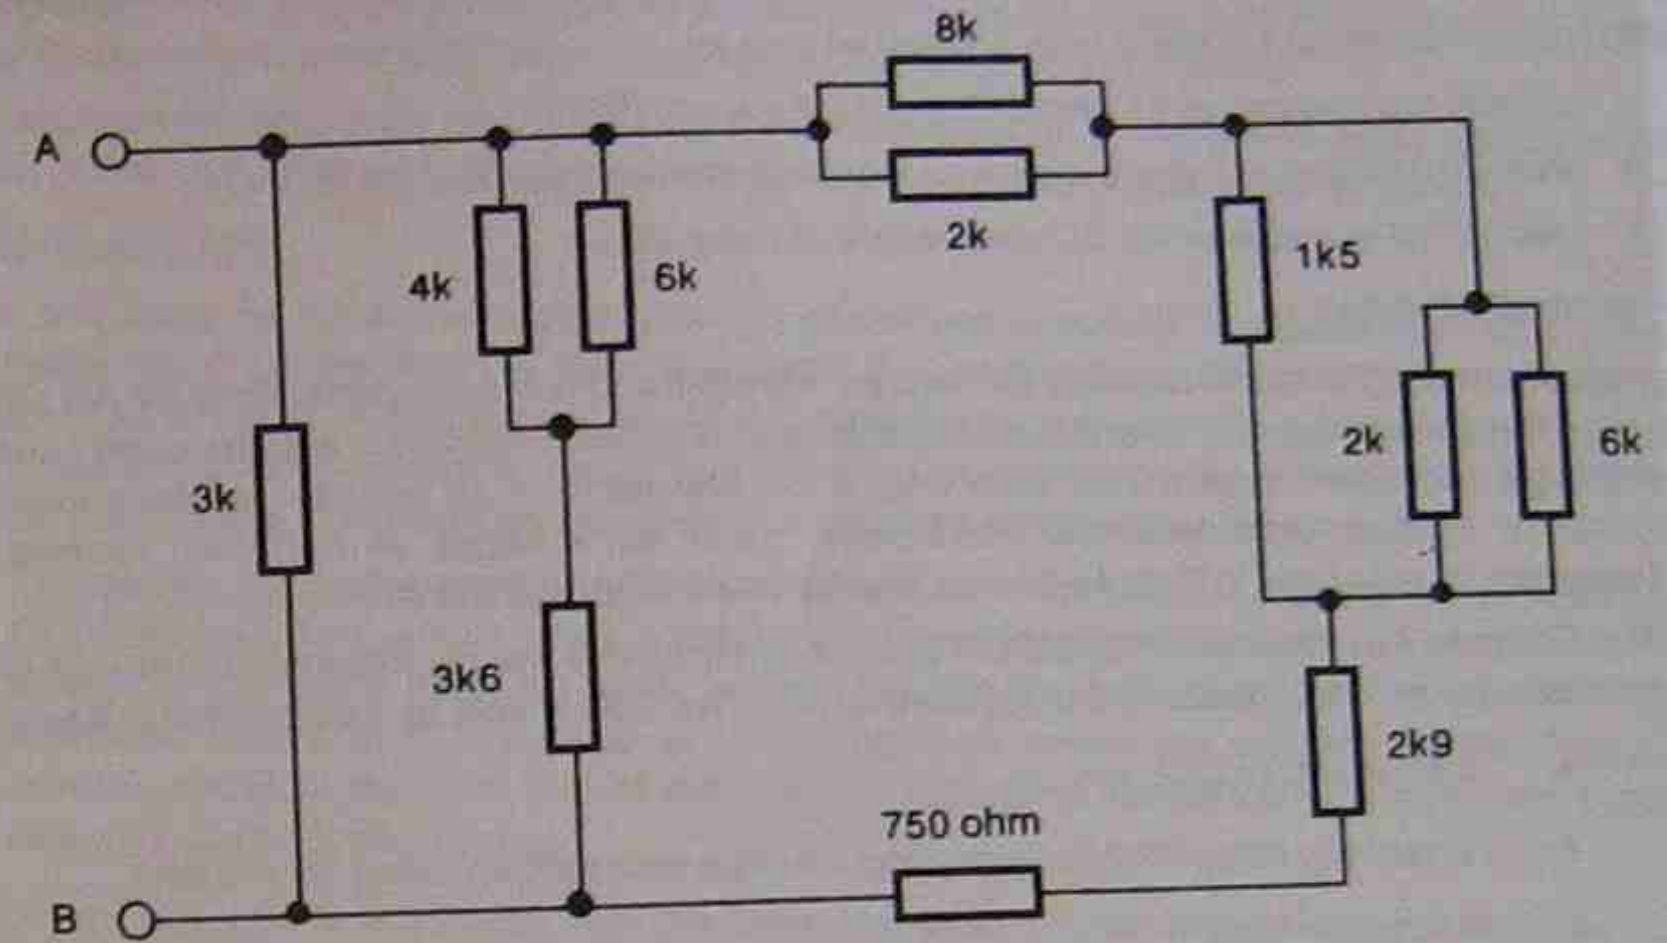

Fig.1
1. For the circuit of Fig.1, calculate the resistance between points A and B.